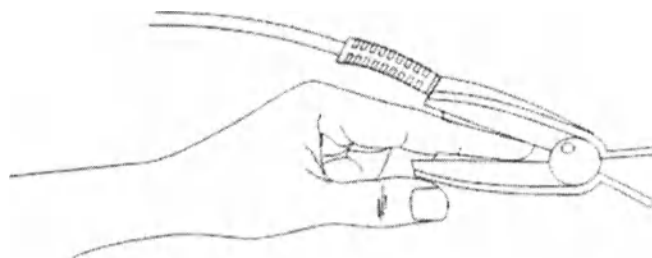

Fig. 9-6 Placement of the Finger for SpO₂ Measuring
- 2) Place the forefinger, middle finger or third finger into the SpO₂ sensor, refer to figure 9-6.